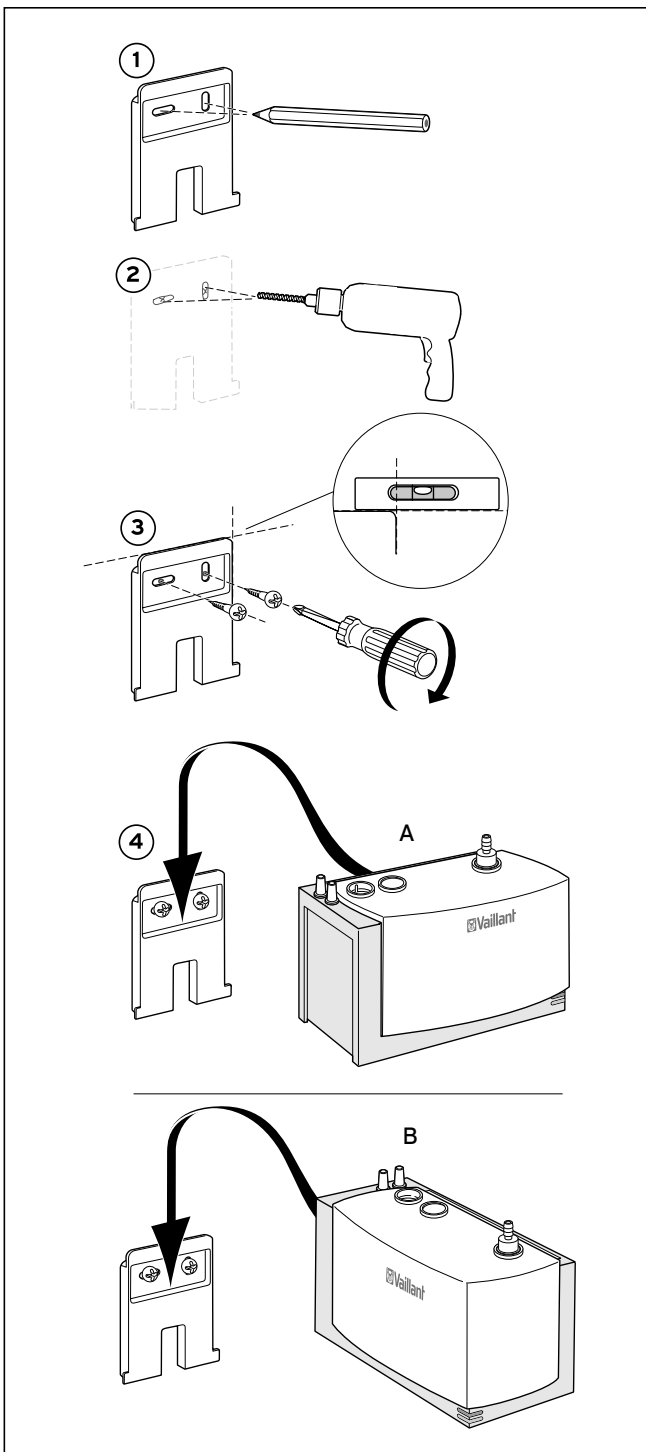

Fig. 4.2 Installing the wall bracket
- Install the wall bracket (as shown in Fig. 4.2) in a suitable position below the point where the condensate drains out of the boiler. The wall bracket must be installed in a level position! Use a spirit-level!